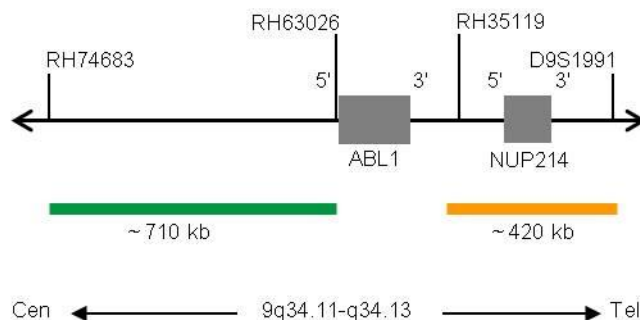

Fig. 1: SPEC ABL1 Probe map (not to scale)
- ZyGreen (excitation 503 nm/emission 528 nm) labeled polynucleotides (~10.0 ng/μl), which target sequences mapping in 9q34.11-q34.12\* (chr9:132,872,357-133,580,236) proximal to the ABL1 breakpoint region (see Fig. 1).
- ZyOrange (excitation 547 nm/emission 572 nm) labeled polynucleotides (~4.5 ng/μl), which target sequences mapping in 9q34.12-q34.13\* (chr9:133,851,960-134,273,097) distal to the ABL1 breakpoint region (see Fig. 1).